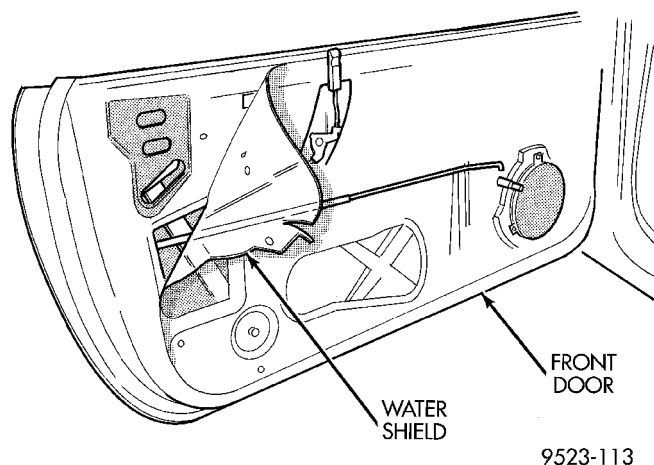

Fig. 10 Water Shield
- (1) Remove door trim panel.
- (2) Remove Door speaker, if equipped.
- (3) Remove door trim pull cup mount bracket.
- (4) Disengage clip holding lock linkage to lock button bell crank.
- (5) Peel water shield away from adhesive around perimeter of inner door panel (Fig. 10).